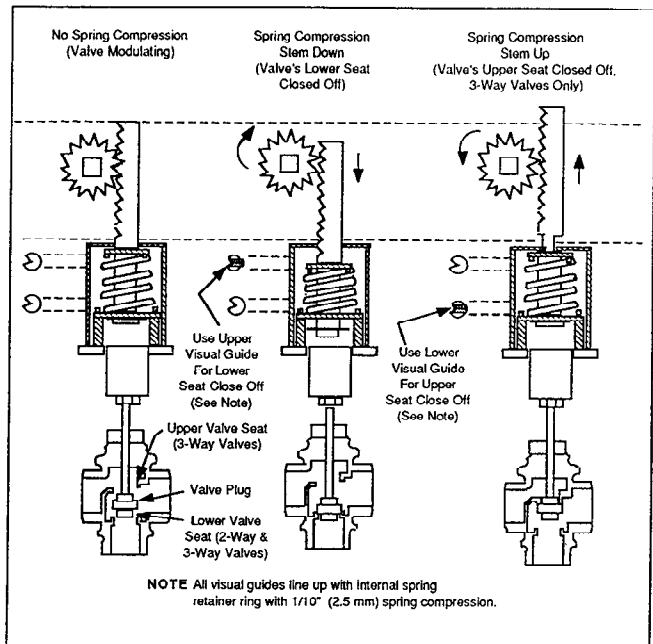

Figure 22. Operation of the Y20EBD Valve Linkage (CW - Stem Down, CCW - Stem Up)
5. Pull rack attached to valve stem all the way up. Then slowly push rack down with square end of drive gear lined up with motor shaft. Press gear on to shaft (See Figure 22). On a CW stem-up application, first rotate shaft to full CW position.